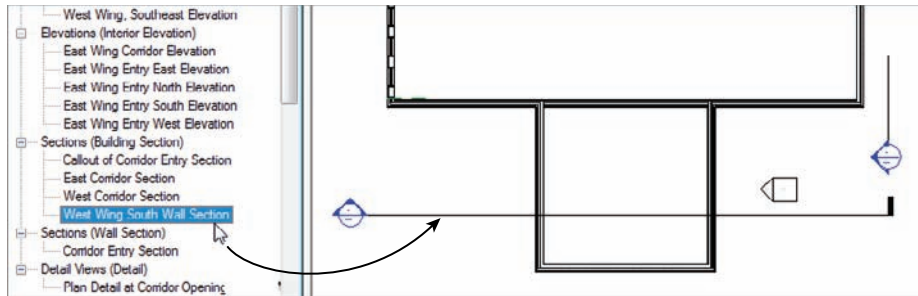

FIGURE 4.35 Open the section called West Wing South Wall Section. This will put you in the section, as shown here.
1. In the Project Browser, open the Sections (Building Section) called West Wing South Wall Section, as shown in Figure 4.35.